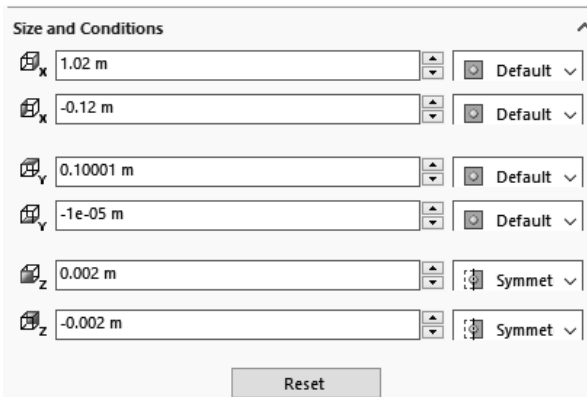
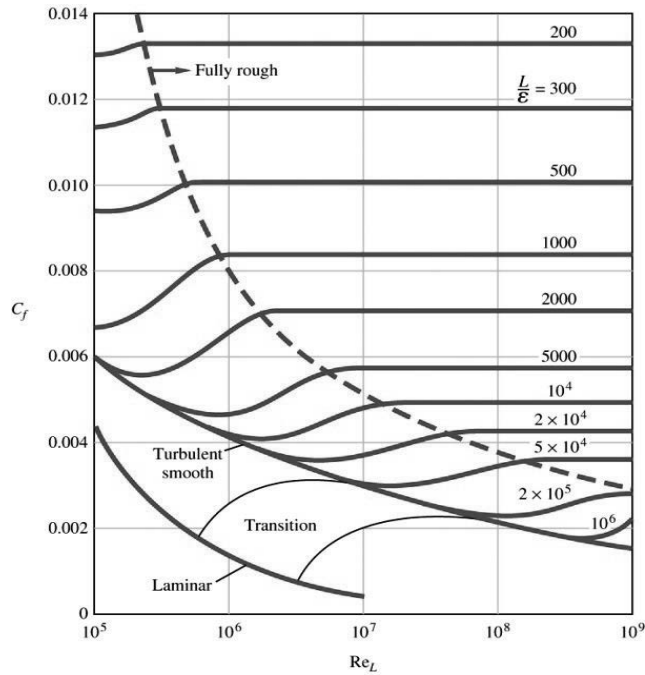

Figure 2.28a) Setting the size of the computational domain
Figure E3. Average friction coefficient for flow over smooth and rough flat plates, White (1999)
28. Select **Tools>>Flow Simulation>>Computational Domain...** Set the size of the computational domain to the values shown in figure 2.28a). Click on the **OK** button to exit. Select **Tools>>Flow Simulation>>Global Mesh...** from the SOLIDWORKS menu, select **Manual Type** and change the **Number of cells per X:** to **400** and the **Number of Cells per Y:** to **200**. Also, click on **Control Planes**. Change the **Ratio** for **X** to **-5** and the **Ratio** for **Y** to **-100**. Click on the green check mark above Ratio, see Figure 2.28b). This will increase the number of cells close to the wall where the velocity gradient is high. Select **Tools>>Flow Simulation>>Calculation Control Options...** from the SOLIDWORKS menu. Change the **Maximum travels** value to **5** by first checking the box for **Travels** under the **Finishing** tab and changing to **Manual** from the drop-down menu. Travel is a unit characterizing the duration of the calculation. Click on the **OK** button to exit.
The average friction coefficient over the whole plate C_f is a function of the surface roughness for the turbulent boundary layer and also a function of the Reynolds number based on the length of the plate Re_L , see figure E3 in Exercise 8. This friction coefficient can be determined in Flow Simulation by using the final value of the global goal, the X-component of the Shear Force F_f and dividing it by the dynamic pressure times the area A in the X-Z plane of the computational domain related to the flat plate, see figure 2.28a) for the size of the computational domain.
2.8 Use different fluids, surface roughness, free stream velocities and length of the computational domain to compare the average friction coefficient over the entire flat plate with figure E3.